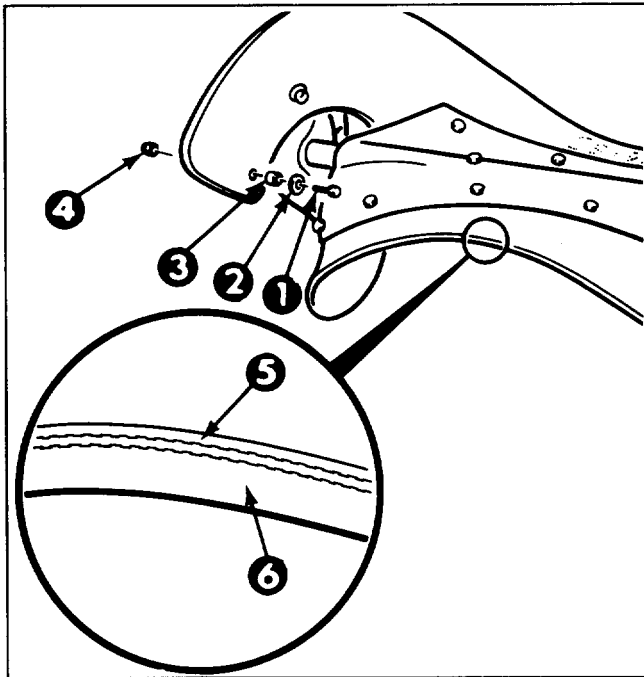

Figure 19
1. REMOVING BLADE (Fig. 19)—Remove (8) 7/16" bolts, (4) washers, and (8) locknuts securing blade to rotor shaft assembly.
2. Slide the blade out from between the steel plates and push the (8) bushings out of the blade holes (Fig. 19).
3. **INSTALLING NEW BLADE**—The rotor blades are made of laminated rubber. Examine the edge of a blade to see the difference in layer thicknesses (Fig. 19). (Some blades have a part number on the thick side of the blade.)